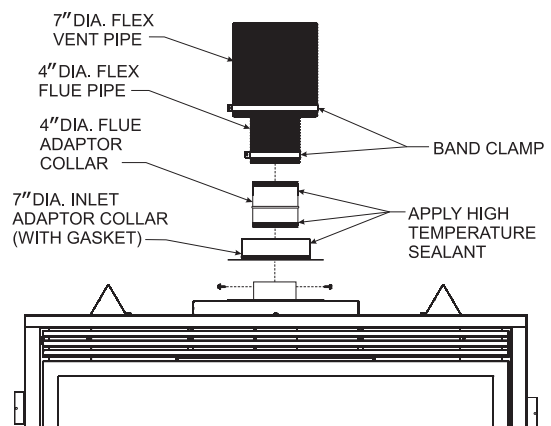

Figure 52
10. Apply sealant to the outside of the flue pipe adapter and connect to the flex flue pipe. Then insert the adapter into the fireplace flue. Secure flue adapter to the fireplace flue with a minimum of two screws provided. See Figure 52.